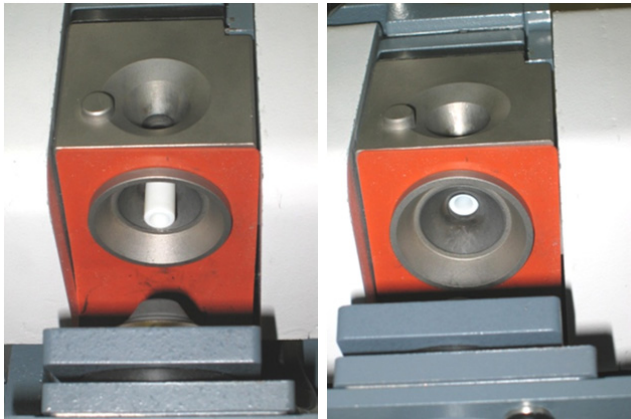

Figure 3. Inserting the spacer into the shroud
- 3 Insert the spacer into the shroud. Use the 5 mm alignment checking tool for workheads fitted with wide bore electrodes. Use the 4 mm tool for workheads with narrow bore electrodes (refer to Figure 3).